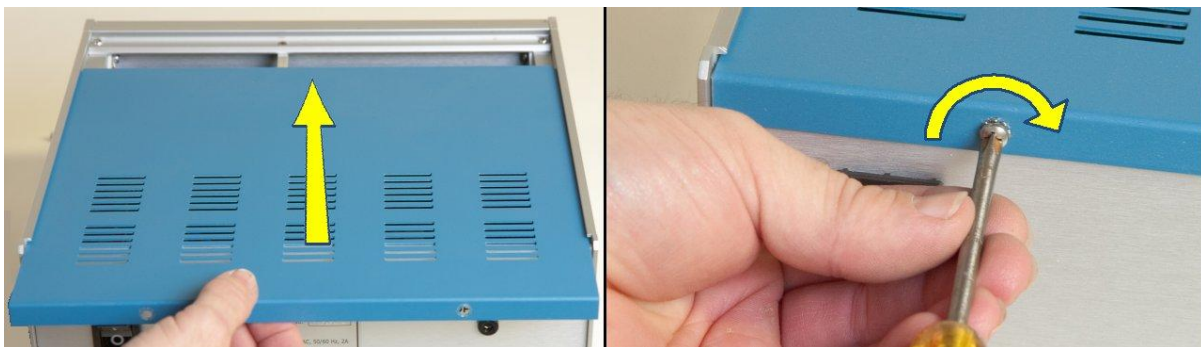

Figure 2-6. Installing AFMSRCE Control Unit Cover
30. Replace the cover on the control unit (see Figure 2-6).